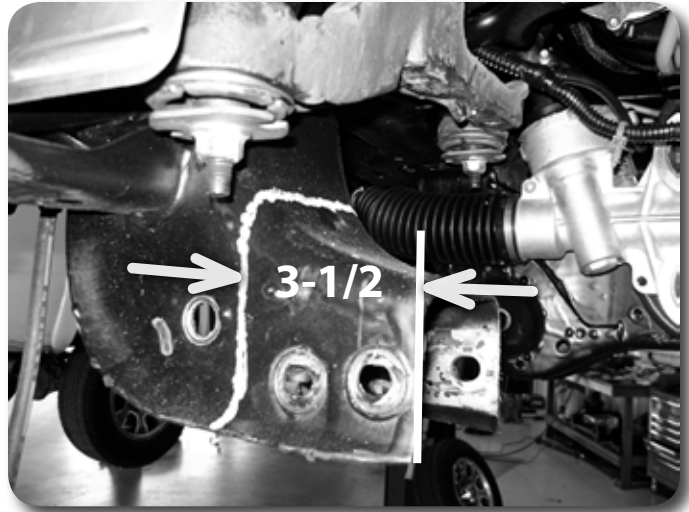

Figure 14 - Shown with differential removed for clarity
26. Measure from the inside of the driver's side control arm pocket out 3-1/2" and mark. Repeat this measurement on the opposite side of the pocket. Make vertical cut lines at the 3-1/2" mark up both front and back faces of the pocket Figure 14.